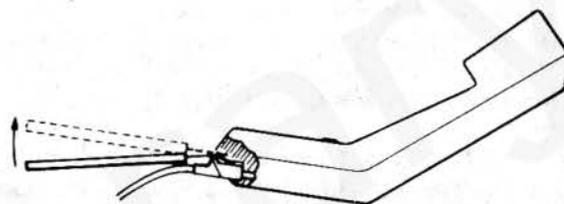

Fig. 4 — Removal of Handset Grommet
- (1) Remove the card retainer (See 3.02) and the number card located above the dial.
- (2) Remove the handset grommet by holding the handset with the back in the palm of the hand. Insert the tip of the NS-16750L3 releaser into the small slot adjacent to the grommet (Fig. 4). Press the handle of the tool towards the grommet and push the tip into the slot as far as it will go. Push the handle of the releaser away from the grommet to release the spring, and gently ease the grommet out of the handset shell.
- (3) Once the grommet has been withdrawn, two screws are exposed. Remove these two screws.
- (4) Loosen (do not remove) the two captive screws in the card retainer well sufficiently to separate the handset sections at the receiver end. Lift the grommet end of the back half of the handset housing and slide it toward the receiver end thus opening the handset.